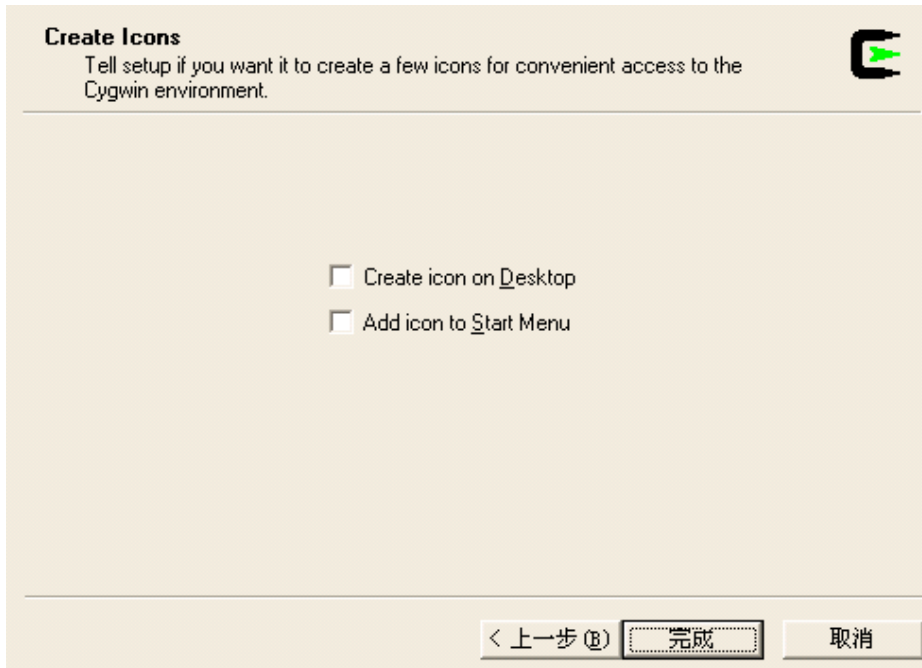

Figure 4-8. Creating Icons
8. The next screen allows you to create icons (Figure 4-8).